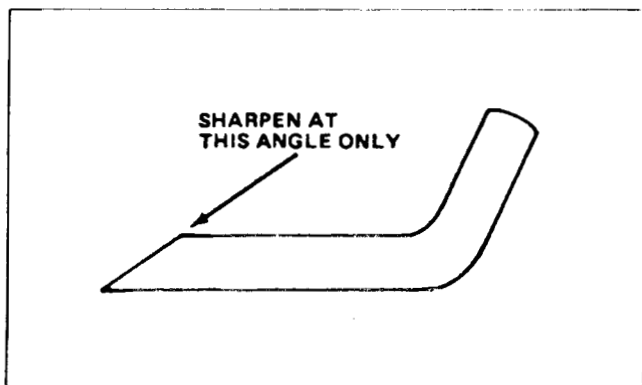

Figure 21
6. *Sharpening Blade* - Using a file, sharpen the top side of the blade and maintain original cutting angle as shown in Figure 21. The blade will remain balanced if the same amount of material is removed from both cutting edges.